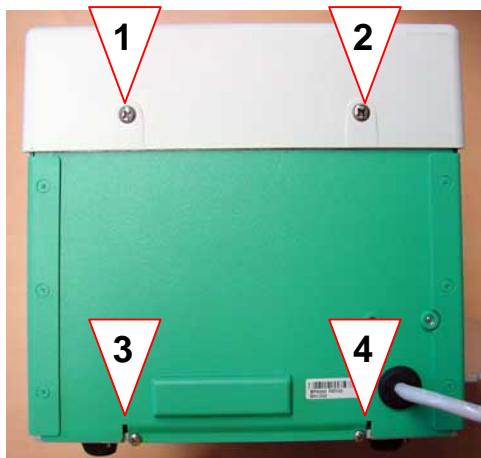

Fig. 4-4 AutoQC module (rear view)
11. Remove the two screws at the back of the AutoQC top cover (see Fig. 4-4, 1 and 2).
13. Remove the two screws at the back of the housing (see Fig. 4-4, 3 and 4).